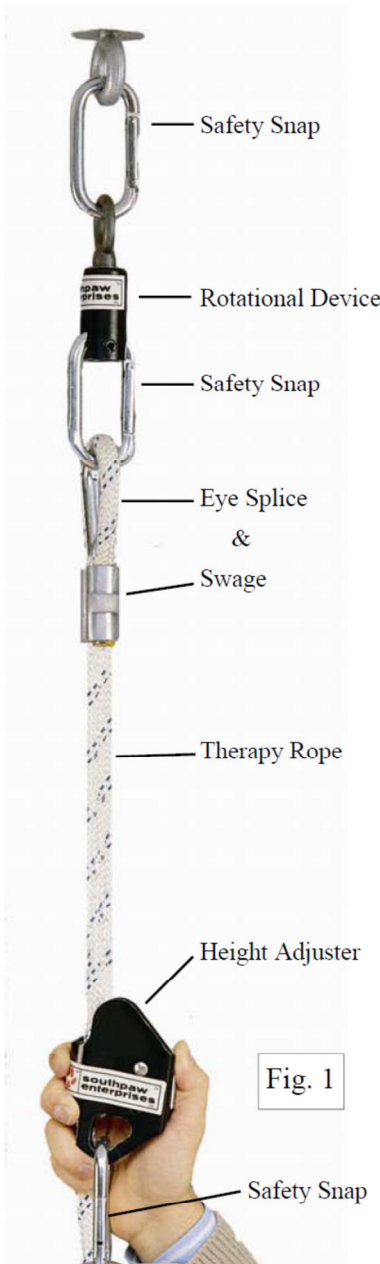

Fig. 1
- Your Height Adjustment System comes with three safety snaps, as pictured in Fig. 1.
- Check the metal lining in the loop at the top end of the rope, and the metal swage (Fig. 1), for sharp edges and wear. If sharp edges are present, they may be sanded smooth. If the loop is worn through completely discontinue use.